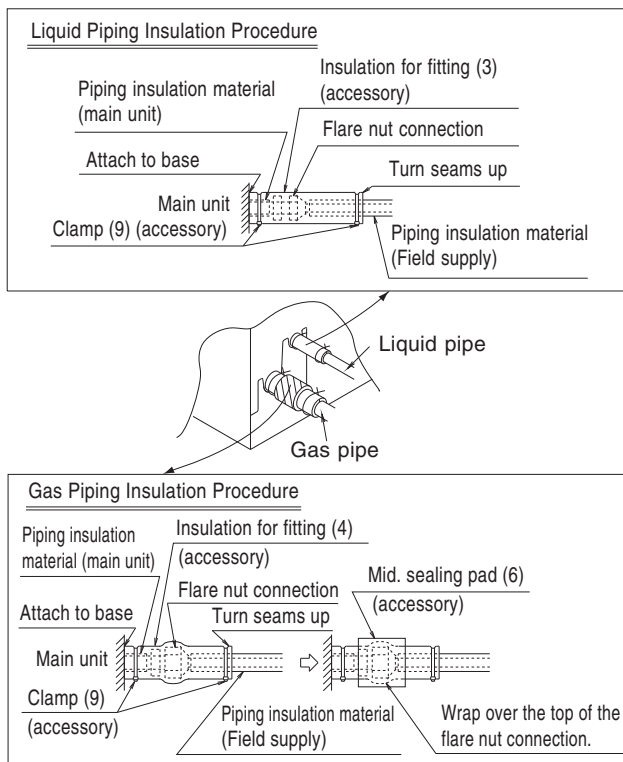

Fig. 8
(2) After the work is finished, make sure to check that there is no gas leak.
(3) After checking for gas leaks, be sure to insulate the pipe connections referring to Fig. 8.
- Insulate using the insulation for fitting (3) (4) included with the liquid and gas pipes. Besides, make sure the insulation for fitting (3) (4) on the liquid and gas piping has its seams facing up.
- (Tighten both edges with clamp (9).)
- For the gas piping, wrap the mid. sealing pad (6) over the insulation for fitting (4) (flare nut part).